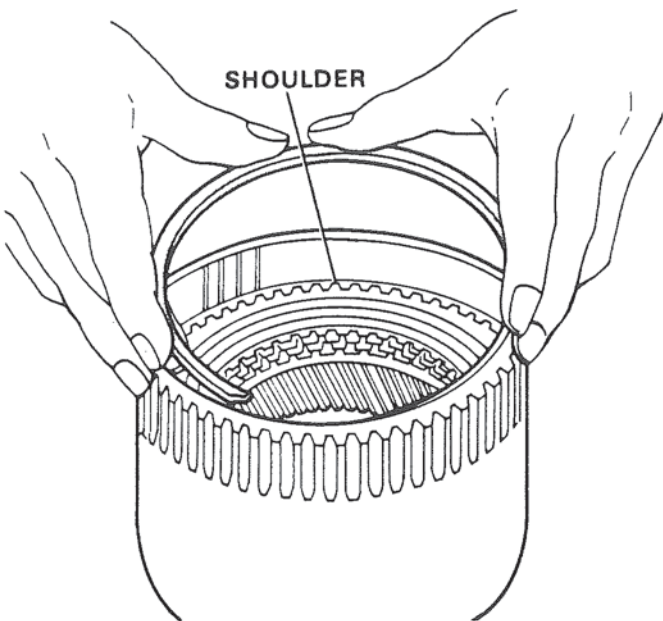

Figure 51. Installing Clutch Spring Snap Ring.
6. Install clutch spring snap ring. Figure 51. Assembly is complete when snap ring is squarely and firmly seated on the internal shoulder provided by the top of the internal splines.